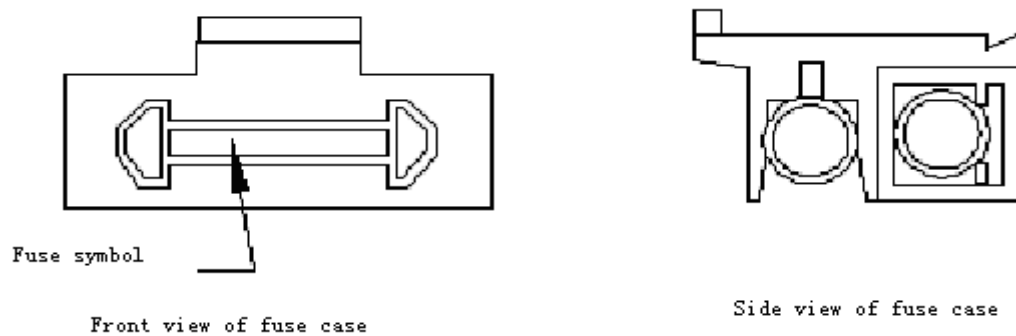
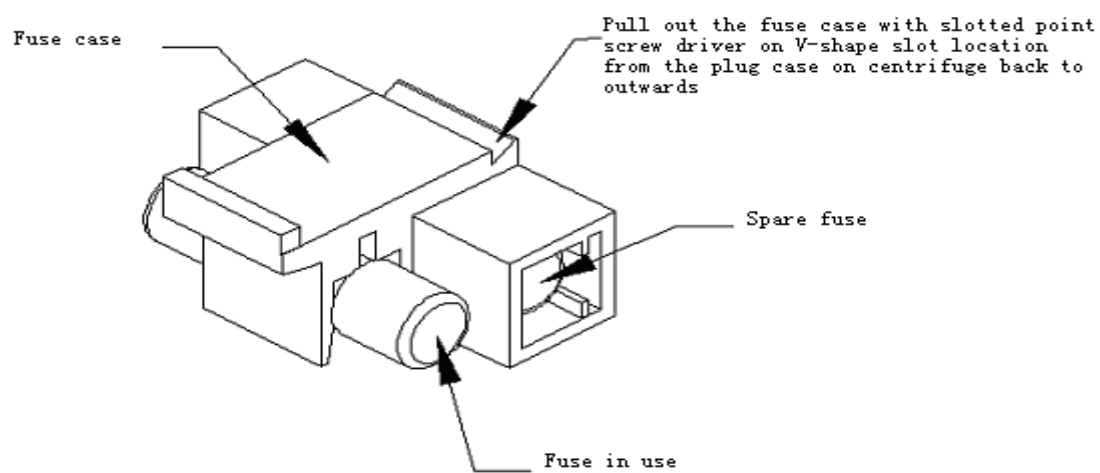

Figure 3
Figure 4
(1) Cut off the power, and unplug the plug the power cord connected with the external electric supply socket. Then draw another end of the power cord connected with the centrifuge.
(2) There is a fuse case equipped on the under part of electric outlet on instrument back. (See figure 3) There is a marking for fuse symbol, and find the V-shape slot on fuse case. (See figure 4) Pull out the fuse case with slotted point screw driver into the V-shape slot.
(3) Take out the damaged fuse and replace it. The model of fuse of the centrifuge is BGXP 5×20 、 250V 10A.
(4) Put the fuse case into electric outlet.